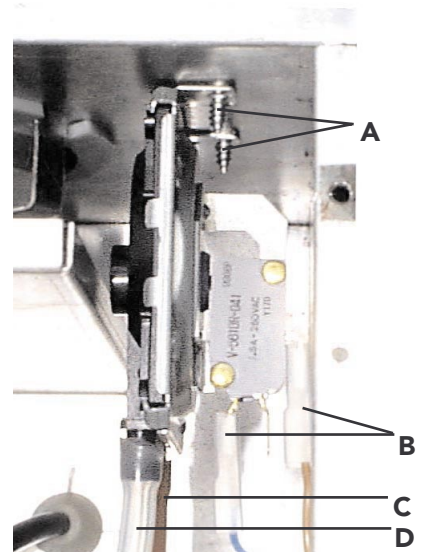

Fig. 27
7.05 Air pressure switch (fig. 27)